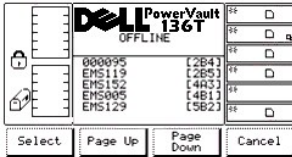

Figure 49. Command > Mailbox > Export List Dialog
- 1 If the button beneath the **OK** softkey is pressed, the follow on dialog is displayed. See Figure 49.
- 1 If the button beneath the **Pages** softkey is pressed, the dialog returns to the Export List Dialog. Refer back to Figure 49. Additional selections can be made or the Export operation can be cancelled.